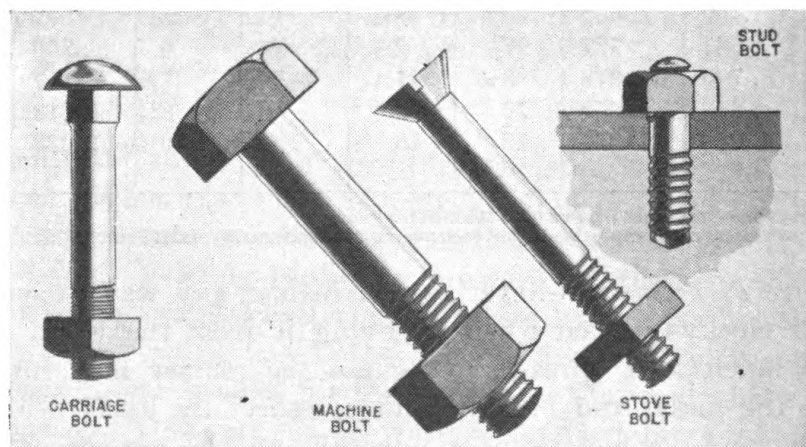

FIGURE 52.—Types of bolts.
(1) Figure 52 shows the various types of bolts in everyday use. They are generally suitable for holding pieces or parts together that